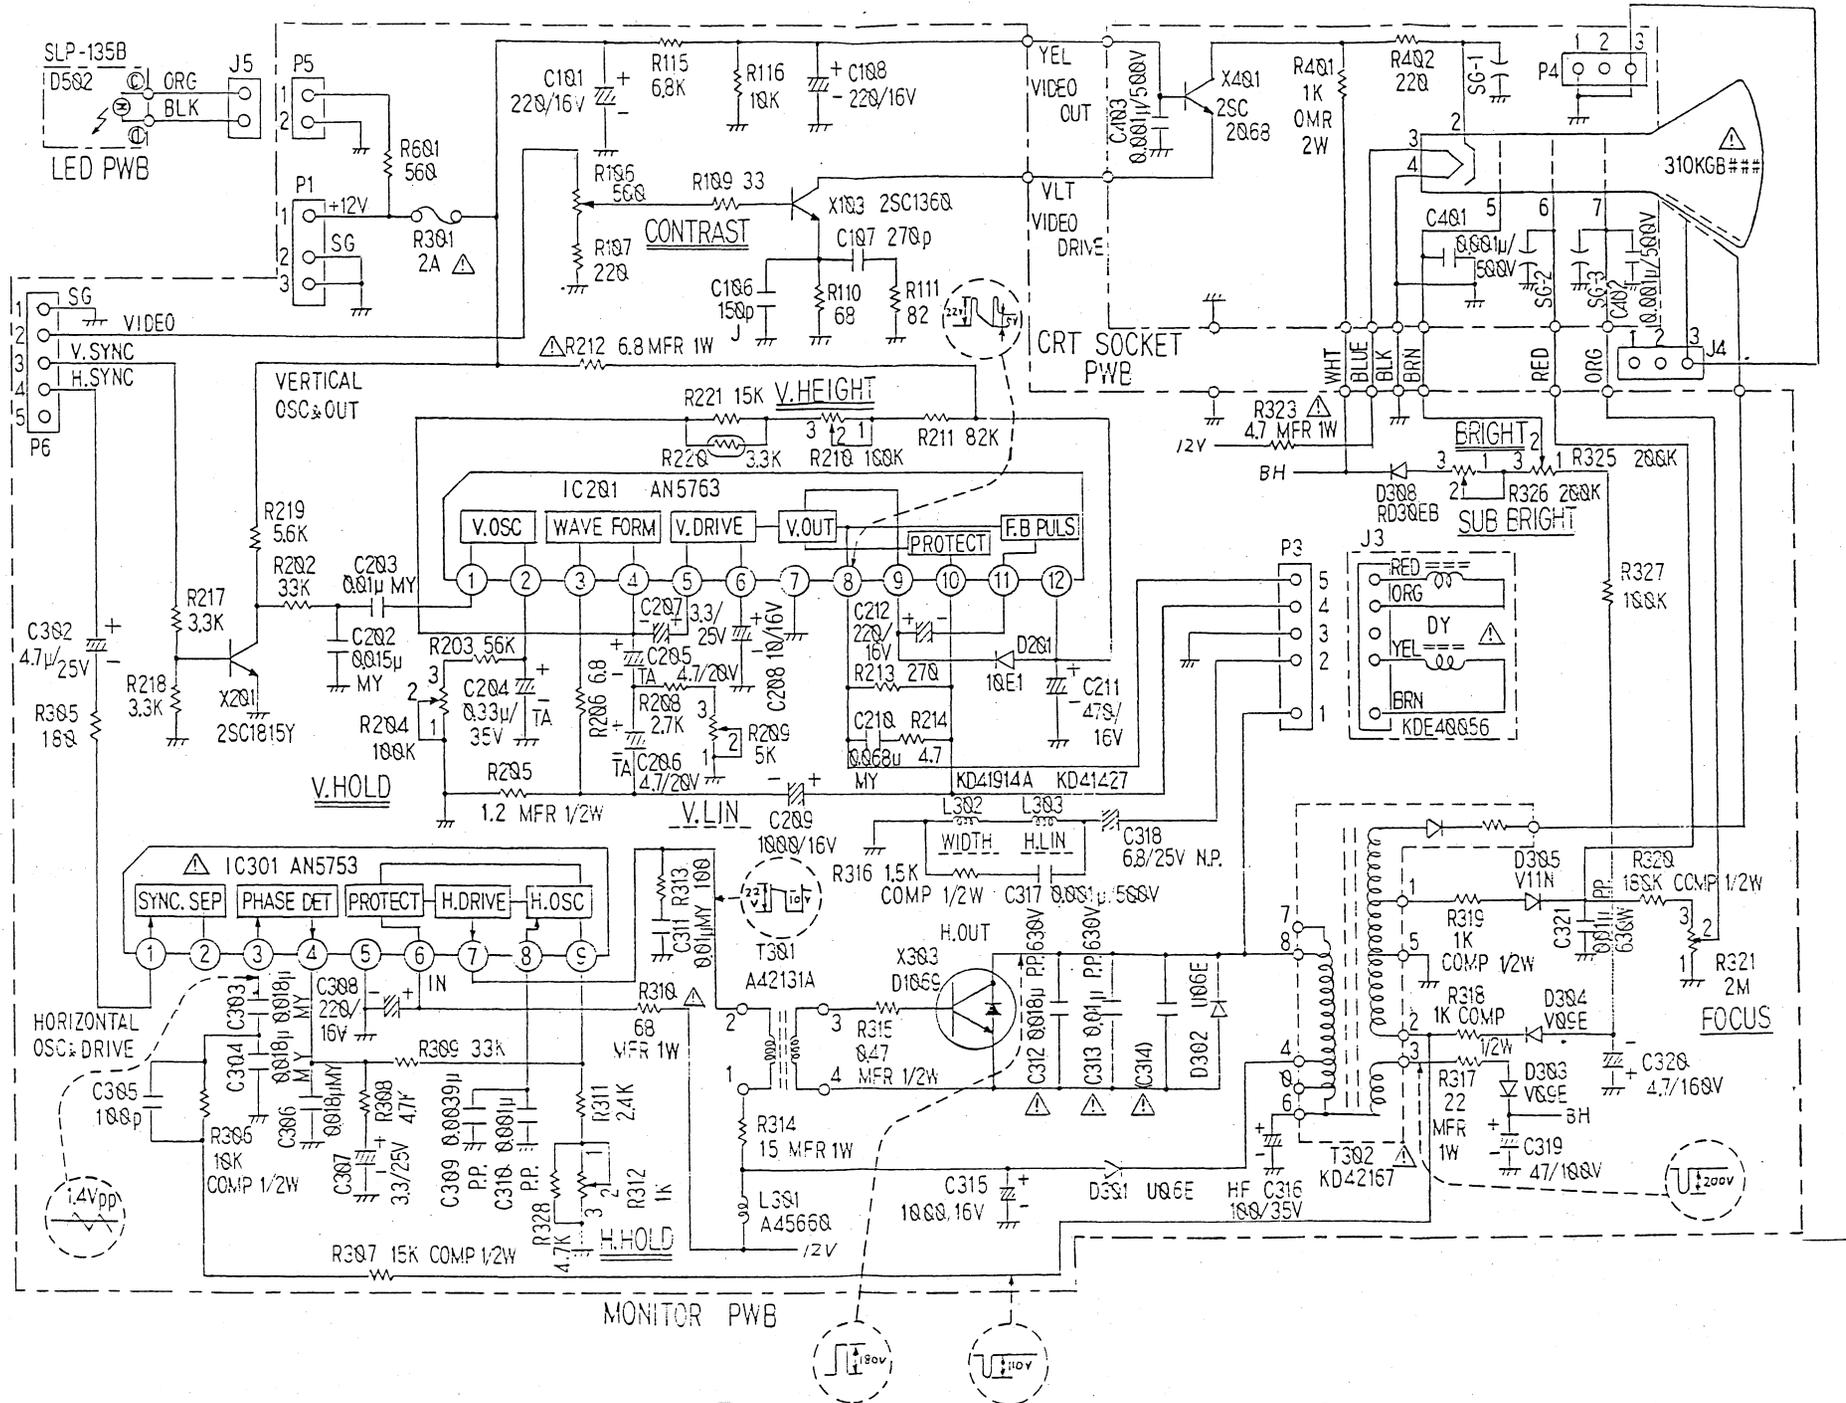

FIG. 10-3 VG-920 MONITOR PWB
- (3) VG-920 MONITOR PWB Fig. 10-3